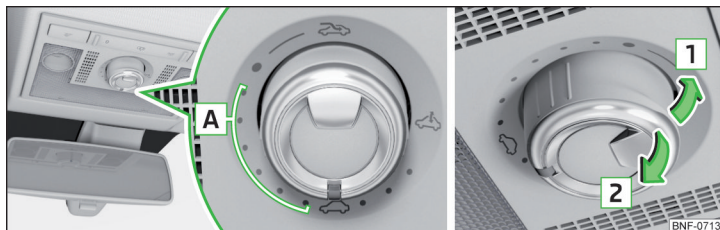

Fig. 38 Operation of the sliding/tilting roof
Operation of the sliding/tilting roof » Fig. 38
If the tilt / slide sunroof is closed, by pulling on the recess of the switch in the direction of arrow **2**, » Fig. 38 on page 43 and the closing process is hindered by an obstacle, then at the third attempt at closing, the force limitation will cease to function (if less than 5 s passes between the individual attempts to close). The tilt / slide sunroof closes with full force - this can cause injury.
- » Turn on the ignition and set the switch to position ☞ » Fig. 38 on page 43.